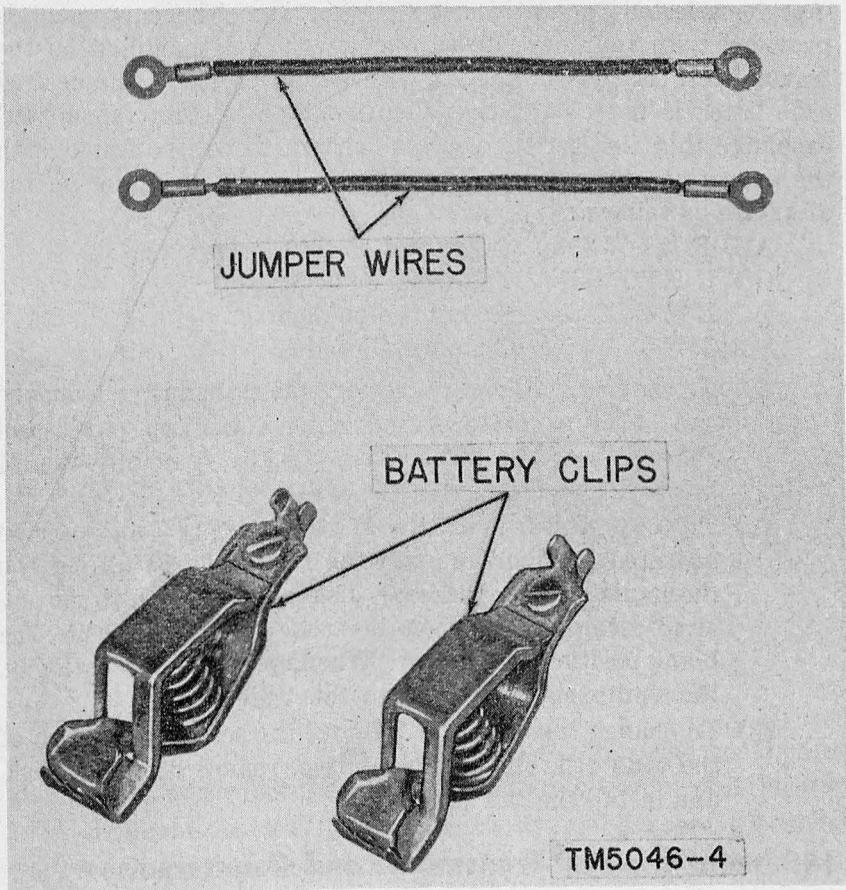
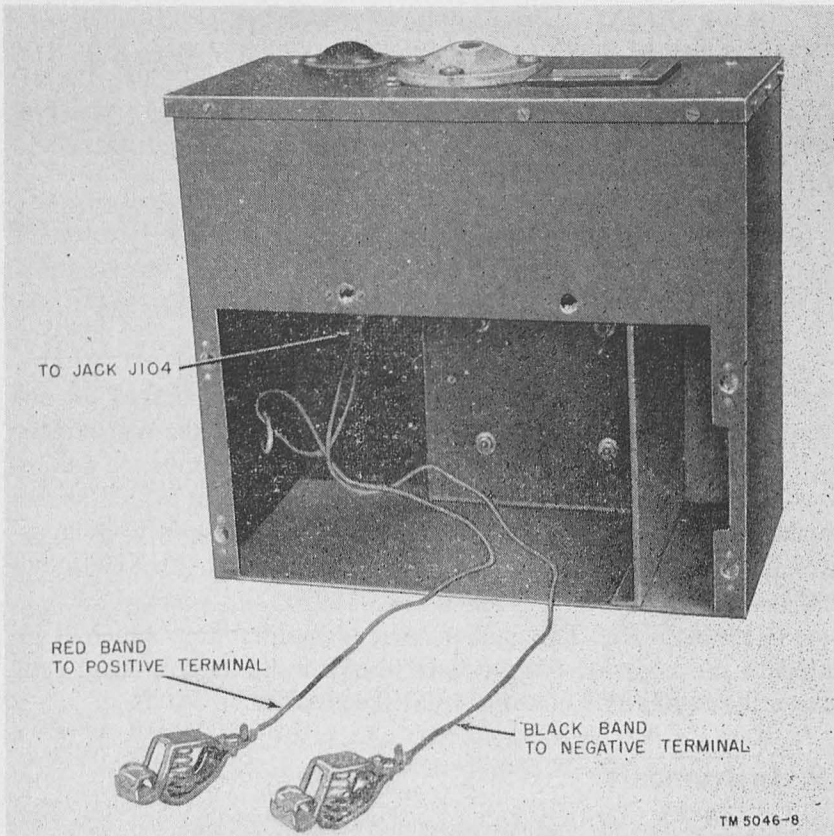

Figure 5. Jumper wires and battery clips.
Figure 9. External battery connections.
- (2) Connect the three batteries in series (the positive of one battery to the negative of the next) by means of two short jumper wires (fig. 5).
When battery BB-54-A is not available, any 6-volt storage battery may be used. Fasten the two battery clips (fig. 5) to the two wires extending to the plug J104 (fig. 9). Connect the lead having the red band to the positive terminal of the battery and connect the lead having the black band to the negative terminal.